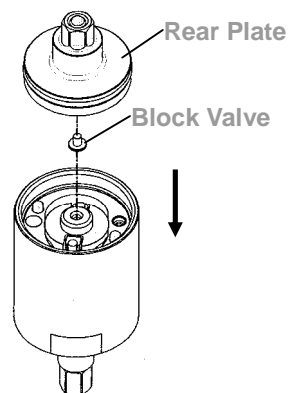

Fig.141
- ④ Put the block valve into the rear plate taken out at Step 2, and then install the rear plate to the pulse cylinder. Make sure the positions of the pins and the holes are exactly matched. (Fig. 141)
- ⑤ Turn the assembled unit up side down so the rear plate is at the bottom. Then press the pulse cylinder seat all the way down to the fixed position. Make sure the corresponding positions are matched exactly.